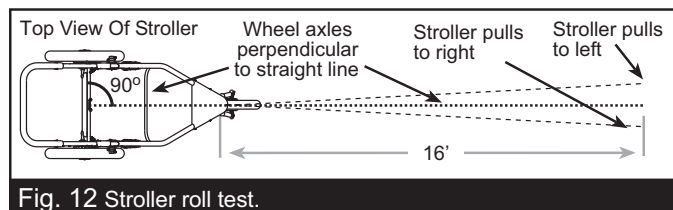

Fig. 12 Stroller roll test.
Note: Tracking adjustment can only be performed with the stroller fork locked out (Jog Mode). Roll test the stroller as described below. It is recommended you have someone assist with this task in order to catch and return the stroller. Fig. 12 illustrates the roll test process.
- If the stroller consistently pulls to the left or right when pushed straight, proceed with the steps below until tracking is satisfactory. Fig. 12 illustrates how to interpret